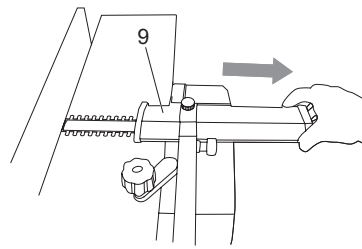

Fig. 26
> Slide the blade guard (9) out as far as it will go. (Fig. 26)